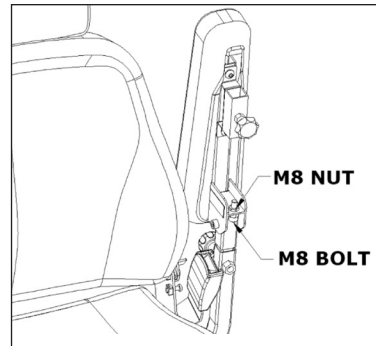

Figure 21. Armrest angle adjustment
1. Lift the armrest straight up so that it is perpendicular to the floor. (See figure 21)